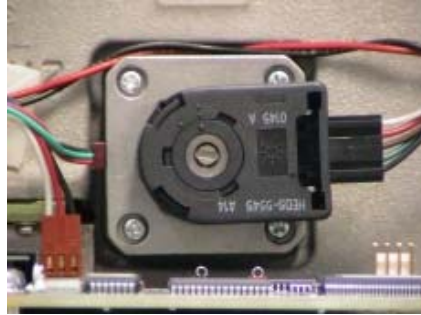

Figure 22 - Filter Position Adjuster
- * CCW will move the filter into the beam. See Figure 22.